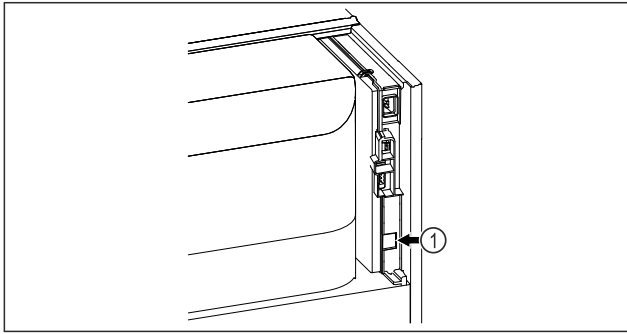

Fig. 140
- ❑ SmartModule Fig. 140 (I) is in use.